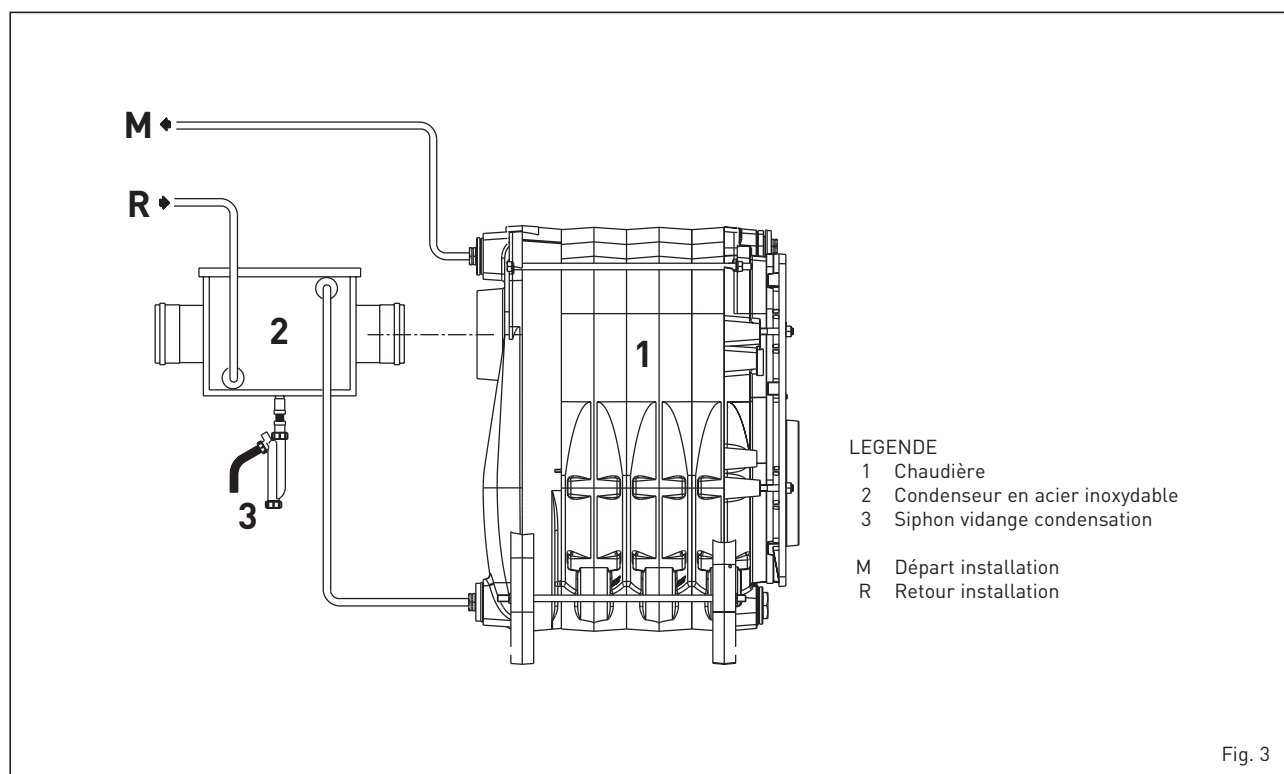

Fig. 3
1.4 CIRCUIT HYDRAULIQUE (fig. 3)